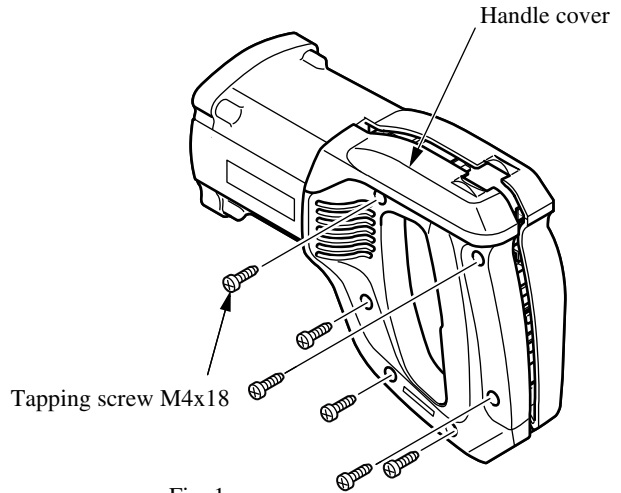

Fig. 1
1) Remove Tapping screw 4x18 (6 pcs), Handle cover, and Carbon brush. (See Fig. 1)